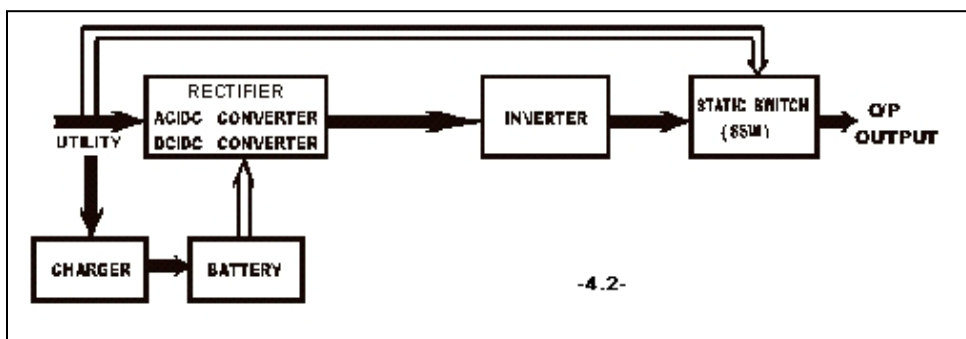

Fig 2
2. When the utility is back to normal, the UPS will turn ON the AC/DC converter, turn OFF the DC/DC converter and switch the charger to Charging Mode. It has the same working principle as Figure 2.
3. During a utility outage, the UPS will work as illustrated in Figure 2. When the battery is low, a buzzer will continuously beep until the battery is completely OFF. The battery low protection circuit of the UPS will shut OFF the battery supply after a preset threshold to avoid over-draining the battery. The  &  (Battery Low) LEDs will light up until the UPS is completely shut OFF. The UPS will automatically restart when the utility is available.